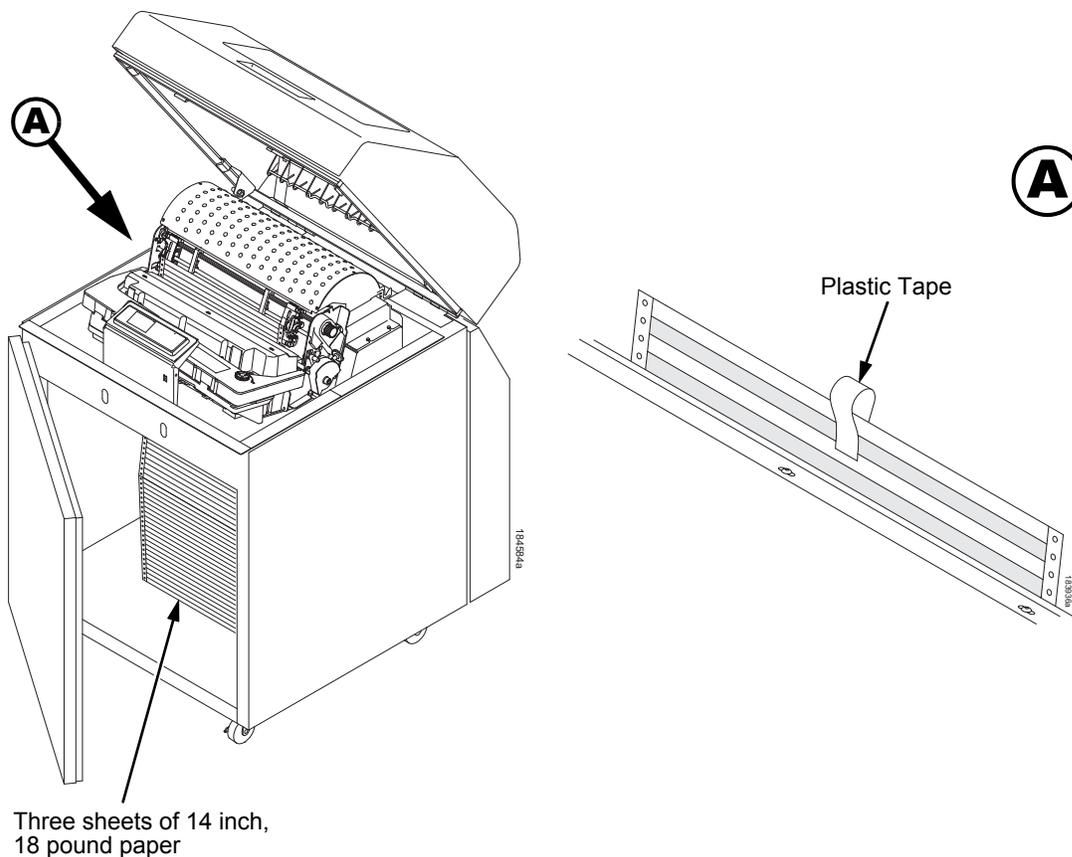

Figure 36. Preparing Paper for Tension Measurement
4. Prepare a length of 14 inch wide paper consisting of three sheets that are still attached at the perforations. The paper must be single part, 18 lb. maximum weight, 0.0036 inch (0.09 mm) maximum thickness. Open the cabinet front door and feed the paper up through the print station until the first page clears the ribbon mask by about one inch. (Figure 36.)
5. Fold a two inch piece of plastic tape over the top sheet, midway between the sides, as shown in Figure 36 detail A.